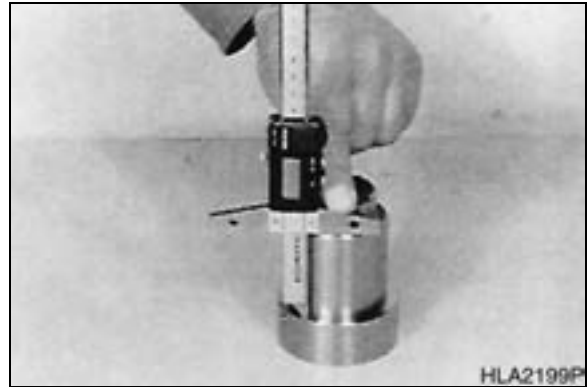

Figure 249
6. (Figure 249, EXAMPLE D):
A. Determine Dimension I, see Figure 249.